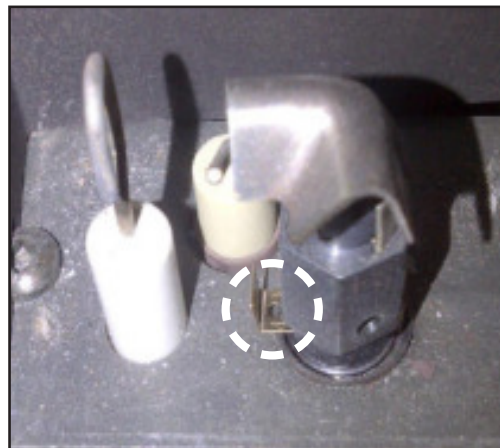

Figure 27. Pilot Slider set to LP
5. Convert the pilot injector (see Figure 27):